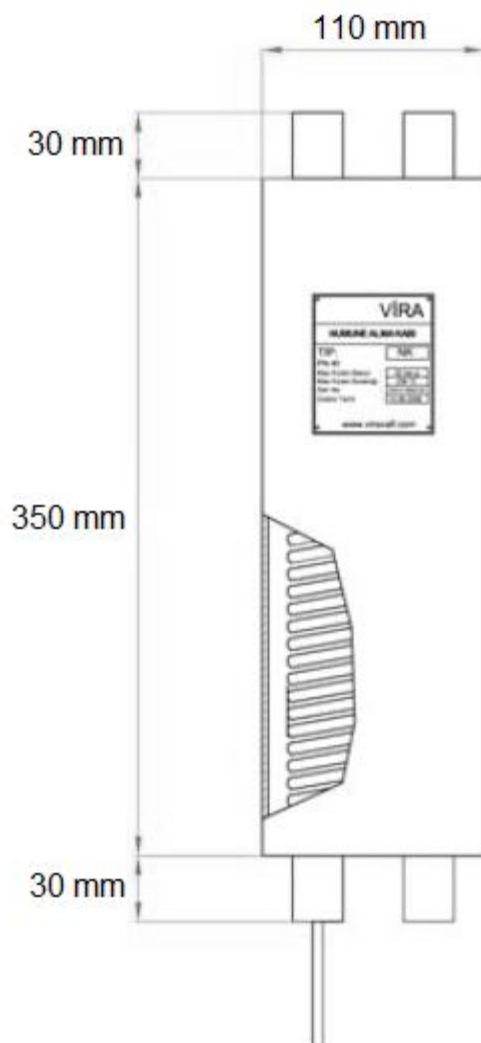

Figure 2: NK Sample Cooler dimensions
- Connect a needle valve to sample inlet. A suitable valve can be connected to cooling water inlet (Figure 2).